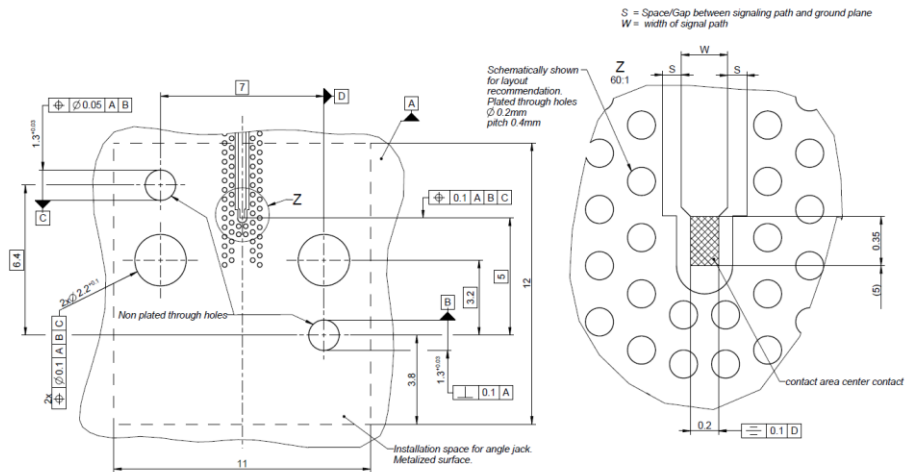

Figure 1: PCB Layout MB_389
1) This handling instruction is valid for all Rosenberger solderless PCB mount connectors. Please note the recommended footprint in the technical datasheet of the used solderless PCB mount connector. Figure 1 shows for example the recommended footprint MB_389 for explanation. Please note the form and position tolerances of the 1.3 mm diameter holes. The more accurate the tolerances the better the prepositioning of the solderless connector. In optimal cases the positioning of the center contact on the contact area (see detail Z) should be ok due to the prepositioning through the dowel pins but it is still recommended to check the positioning of the center contact under a microscope.